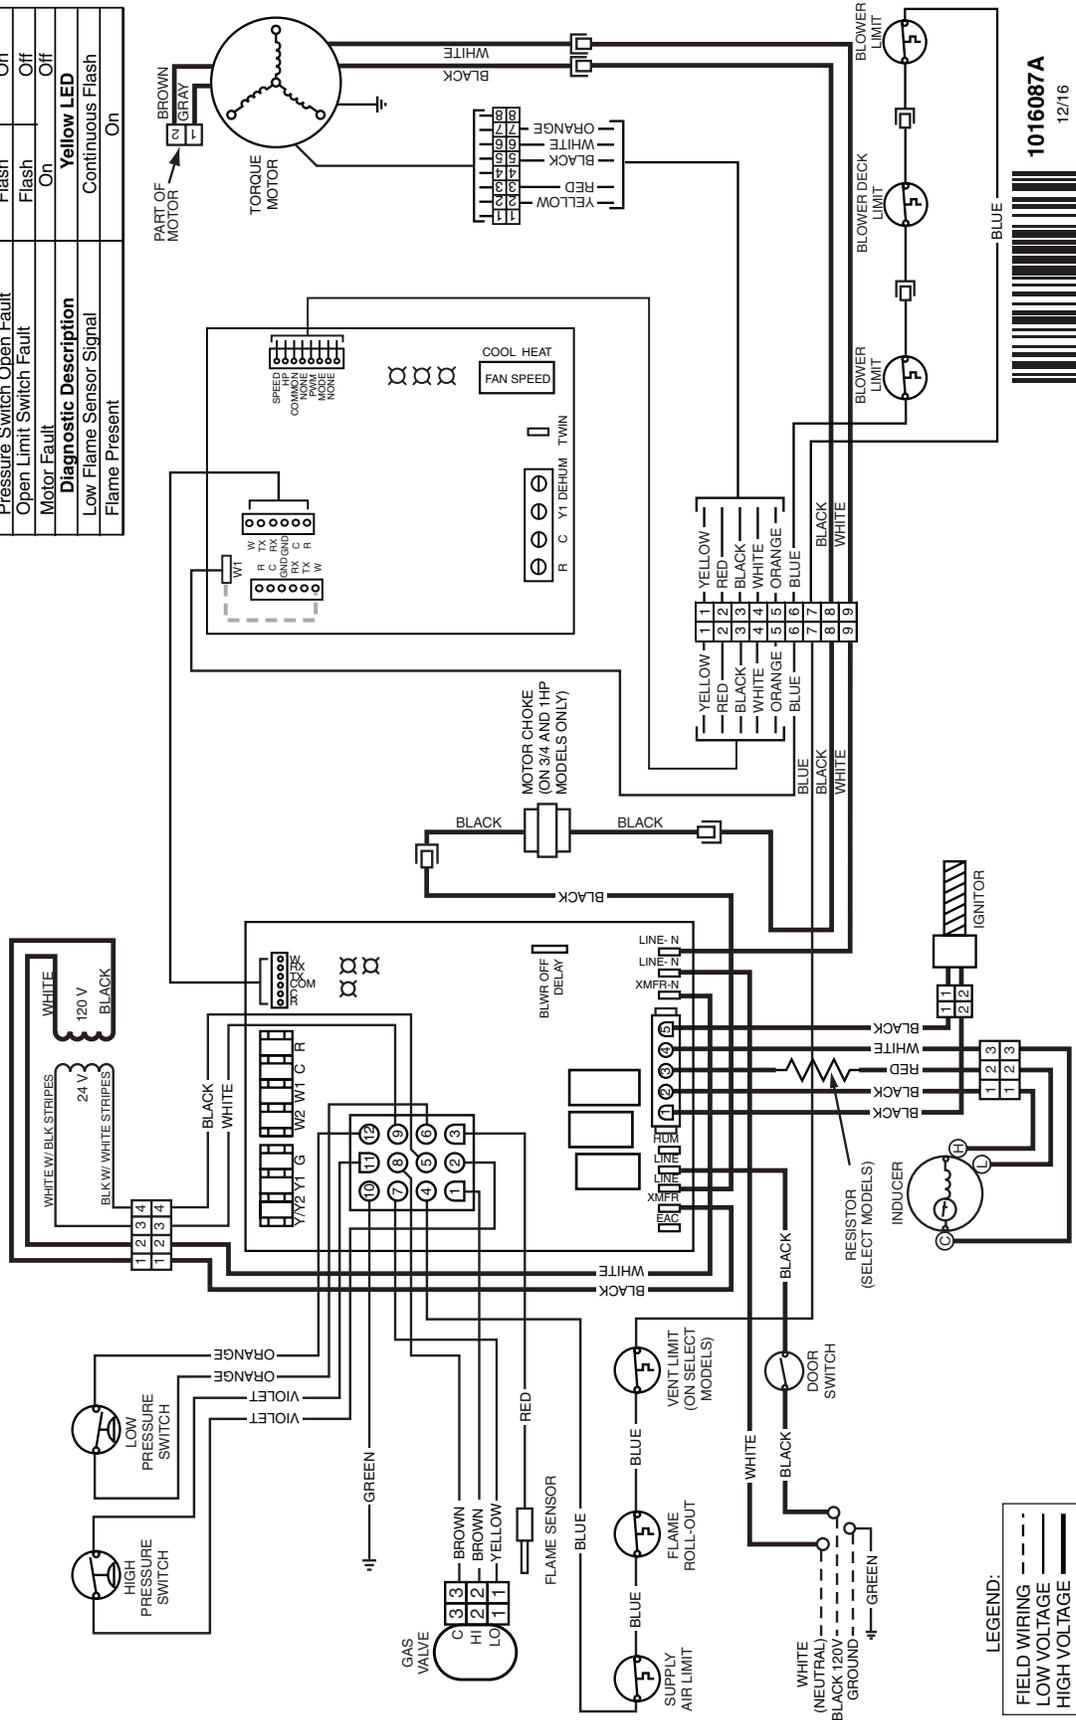

Figure 31. Wiring Diagram for Two-Stage, Fixed Speed Downflow Furnaces
- Are all the LED's on the furnace and motor control boards constantly ON? If not, refer to Table 16 & Table 17 or the wiring diagrams: (Figure 30 (page 39), Figure 31 (page 40), Figure 32 (page 41), & Figure 33 (page 42)) to determine fault condition.